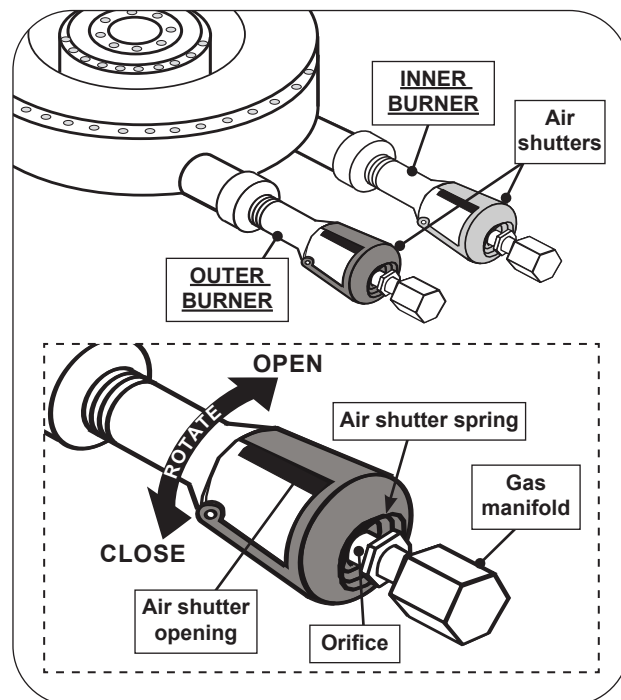

Fig. 49-1 Power burner air shutter adjustment detail
1. To adjust the air shutters, rotate the shutters to open or close them. See Fig. 49-1 for details.